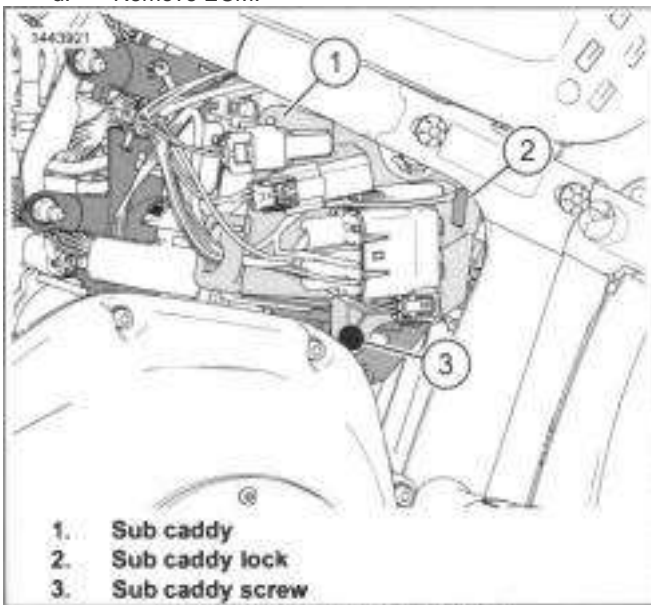

Figure 7-120. ECM Sub Caddy
1. Release and move sub caddy (1).
- a. See Figure 7-120. Remove screw (3).
- b. Release sub caddy lock (2).
- a. See Figure 7-120. Route sub caddy into position.
- b. Push and lock into position the rear sub caddy lock (2).
- c. Install screw (3). Tighten